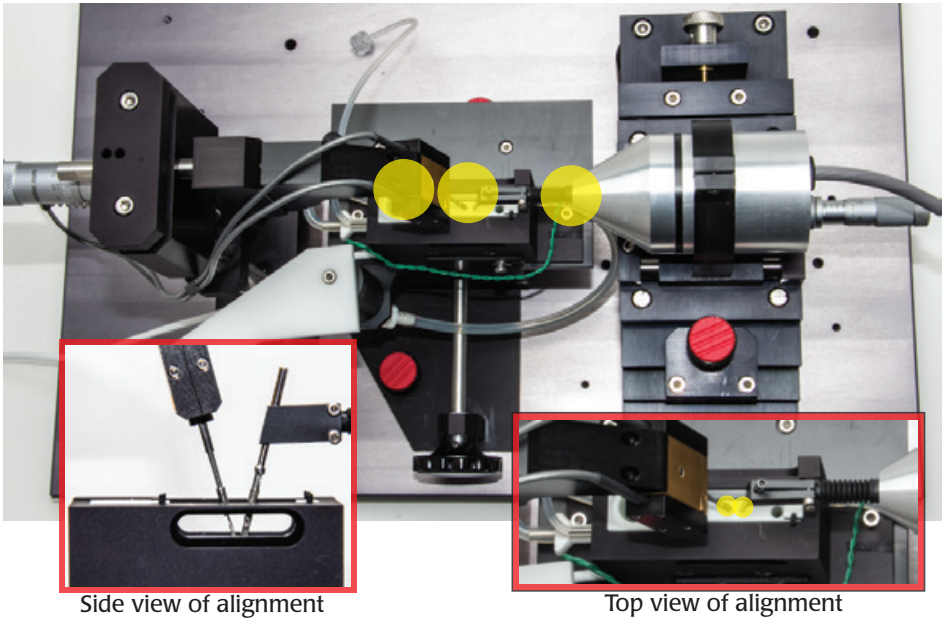

Fig. 26—Line up the motor, force transducer and cuvette.
11. Align the motor, force transducer and cuvette (Fig. 26). Use the Y-adjustment knob on the back of the motor mount to move it. Both the force transducer stand and the cuvette assembly can slide backward or forward if you loosen the securing screws. When all three are aligned, tighten all the securing screws.